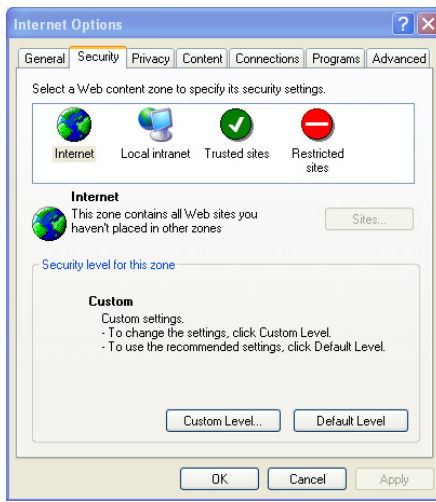

Fig 8-1
① Open IE browser. Click Tools-----Internet Options....
② select Security-----Custom Level....Refer to Fig 8-1